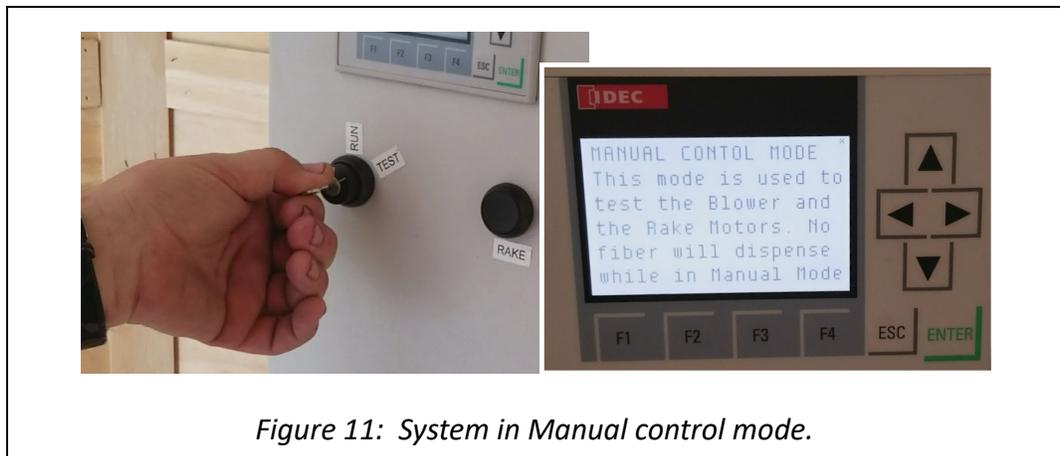

Figure 11: System in Manual control mode.
- h. Confirm that the display on the control panel indicates that the system is in Manual mode (see Figure 11).